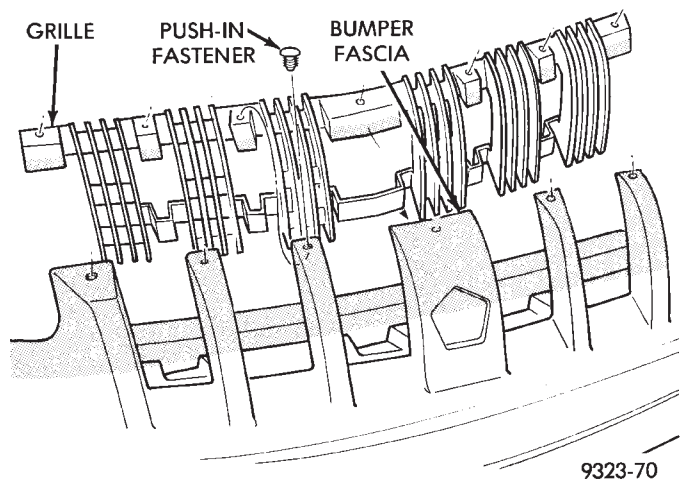

Fig. 1 Grille-Typical
- (1) Release hood latch and open hood.
- (2) Remove push-in fasteners holding grille to fascia (Fig. 1).
- (3) Disengage tabs at bottom of grille from holes in fascia.
- (4) Separate grille from vehicle.